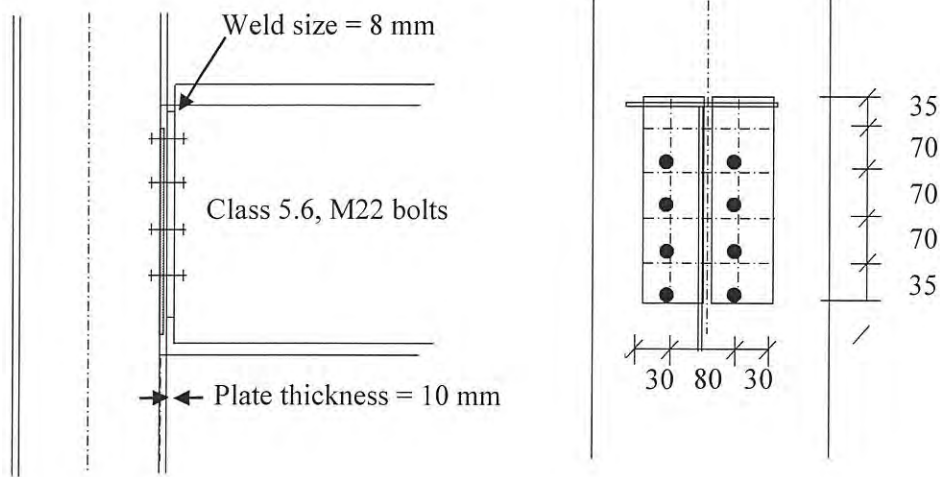

Figure Q4 (a) : Bolted connection (All unit in mm)
- Q4** (a) Determine the suitability of the bolt arrangement for the connection shown in **Figure Q4(a)**.
- (b) Calculate the shear and bearing resistance of the bolt group as in **Figure Q4 (a)**. The plates are made of S355 steel and connected using non-preloaded bolts of diameter 22 mm and class 5.6.